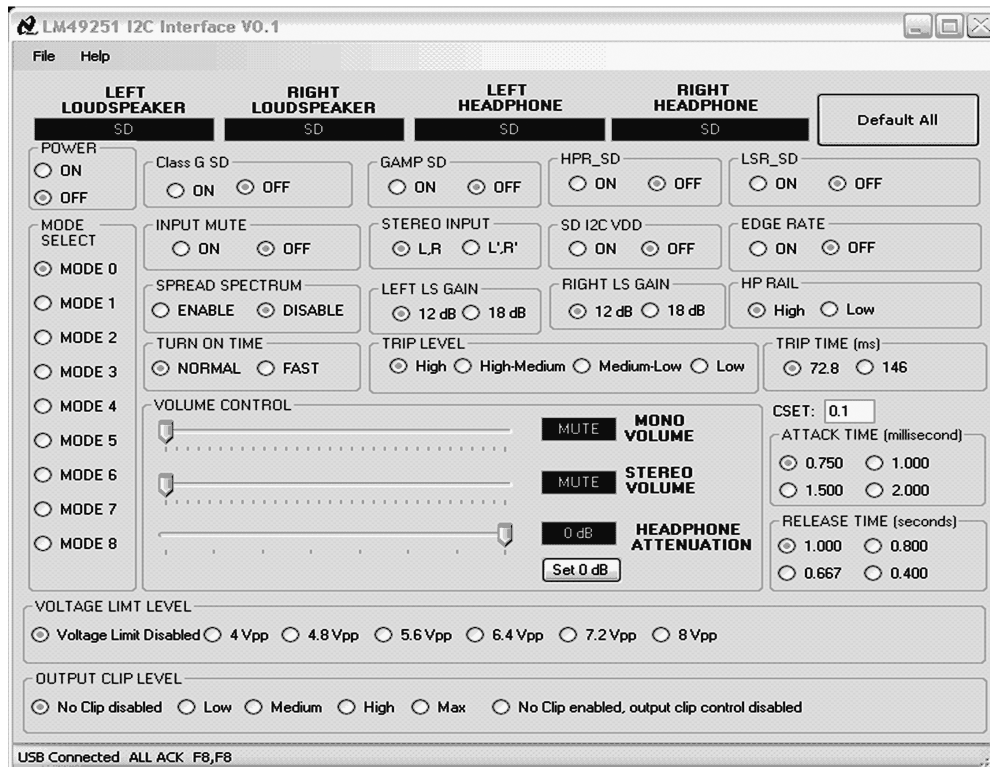
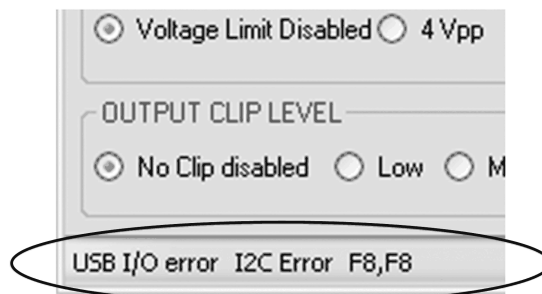

Figure 61. Software Graphic user Interface (GUI)
Figure 62. Error Message displayed on GUI if device is NOT acknowledged (I²C Error) or if there is an USB error (USB I/O error)
10. Verify that the device has been acknowledged by looking at bottom left corner of GUI (see Figure 61 and Figure 62).